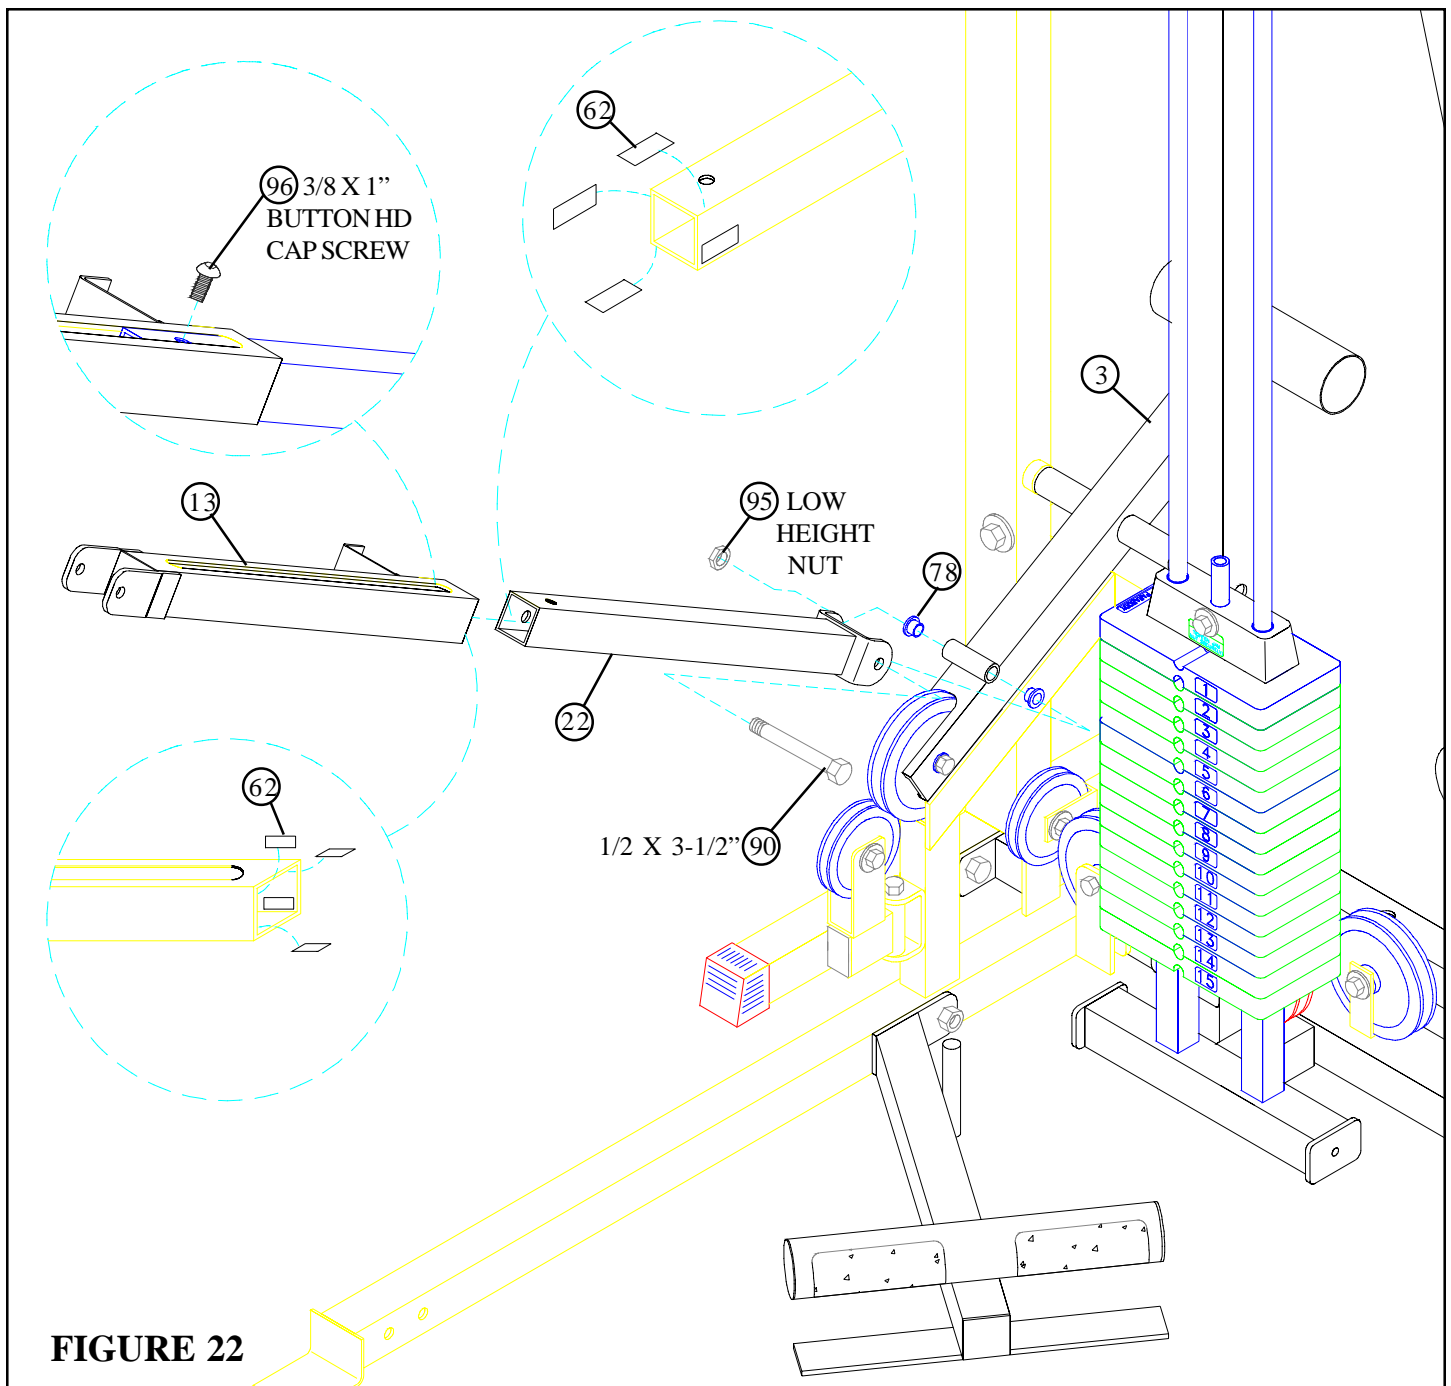

FIGURE 22
- Attach eight PARAGLIDE STRIPS (62) **INSIDE** the end of the RECEIVING TUBE (13) and four PARAGLIDE STRIPS (62) to the **OUTSIDE** of the PRESS ADJUSTMENT TUBE (22) using the following steps:
- Thoroughly clean all surfaces where PARAGLIDE STRIPS (62) are to be attached.
- Remove the PARAGLIDE STRIPS (62) from the paper backing and firmly apply them to surfaces. (**NOTE: Orientate the strips so they will slide by each other.**)
- CAREFULLY slide the PRESS ADJUSTMENT TUBE (22) into the RECEIVING TUBE (13). (**NOTE: Make sure the spring pin barrel on the RECEIVING TUBE (13) is on the same side as the holes in the PRESS ADJUSTMENT TUBE (22).**)
- Thread one 3/8 X 1" BUTTON HEAD CAP SCREW (96) through the slot in the RECEIVING TUBE (13) and into the ADJUSTMENT TUBE (22)
- Insert two 1/2" FLANGE BEARINGS (78) into the COUNTER LEVER (3) as shown in FIGURE 22.
- Assemble the PRESS ADJUSTMENT TUBE (22) to the COUNTER LEVER (3) using one 1/2 X 3-1/2" BOLT (90) and one 1/2" LOW HEIGHT LOCK NUT (95). (**NOTE: Tighten the connection enough to remove play, yet allowing the PRESS ADJUSTMENT TUBE (22) to rotate freely.**)